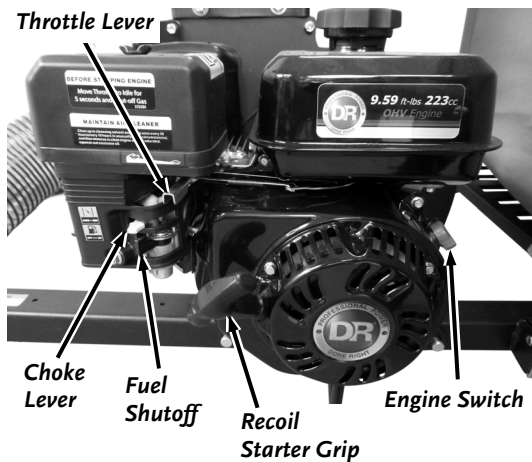

Figure 63
1. When starting a cold Engine; push the Choke Control lever to the left (CHOKE) and the Throttle Control lever to the far left (rabbit position) (**Figure 63**). If re-starting a warm Engine, leave the Choke in the (RUN) position.